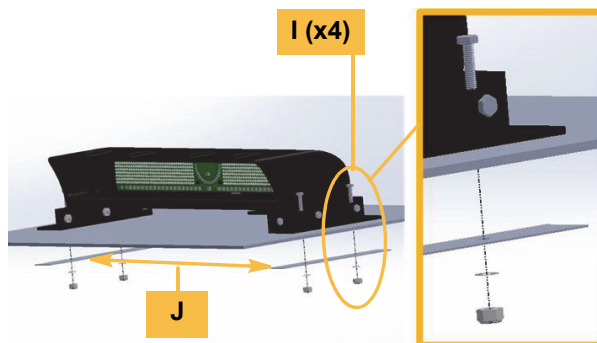

Figure 2b: Lightbar on aircraft—backing plates used (E/E shown)
- Using hardware **I** (short or long bolts as required) secure the lightbar to the aircraft (Figure 2b - E/E bracket combination shown). If required, use the backing plates **J** on the underside of the mounting surface for additional reinforcement: they provide additional support to prevent the bolts pulling through the surface under vibration.